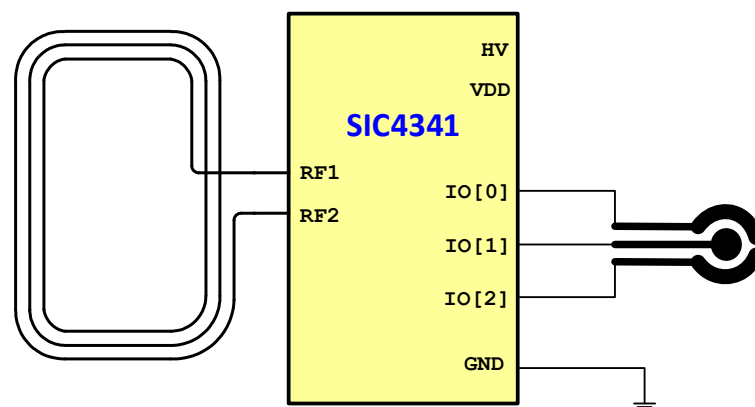

Figure 1: Basic connection of the SIC4341 with 3-electrode chemical sensor
The SIC4341 operating in an RFID Tags with 3-terminal chemical sensor is shown in Figure 1. Two external capacitors can be optionally connected to pin **HV** and **VDD** to enhance power stability. A loop antenna is directly connected from pin **RF1** and **RF2** for RFID/NFC communication. Chemical sensor is connected to pin **IO[0]** to **IO[2]** in which the pins can be flexibly remapped to Reference Electrode (RE), Working Electrode (WE), and Counter Electrode (CE) of internal potentiostat circuit.